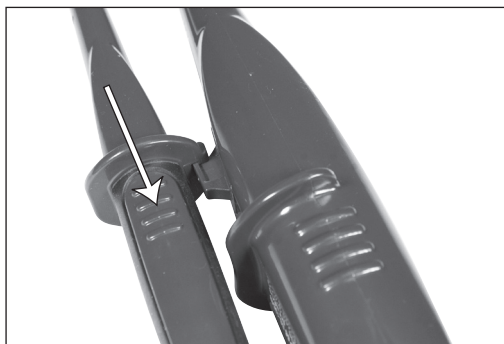

Fig. 3
When not in use, the two probe housings can be attached together by sliding the storage union clip (7) through the storage union slot (8) (Fig. 3).